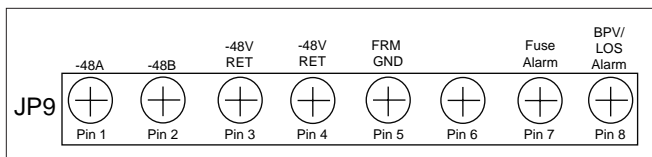

Figure 1. E220 RP 19" HDSL System Shelf
This practice is an installation and maintenance guide for the ADTRAN E220 Redundant Power (RP) 19" HDSL System Shelf. Figure 1 is an illustration of the shelf. ADTRAN E220 RP HDSL 19" System Shelf features include: